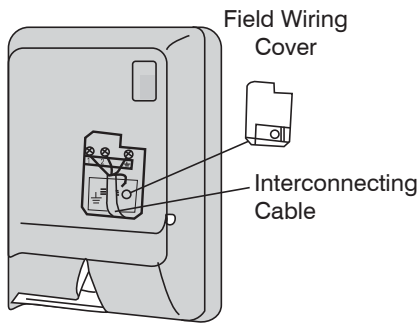

Fig. 15 – Field Wiring Cover
5. Open front cover of indoor unit and remove field wiring terminal block cover (see Fig. 15).